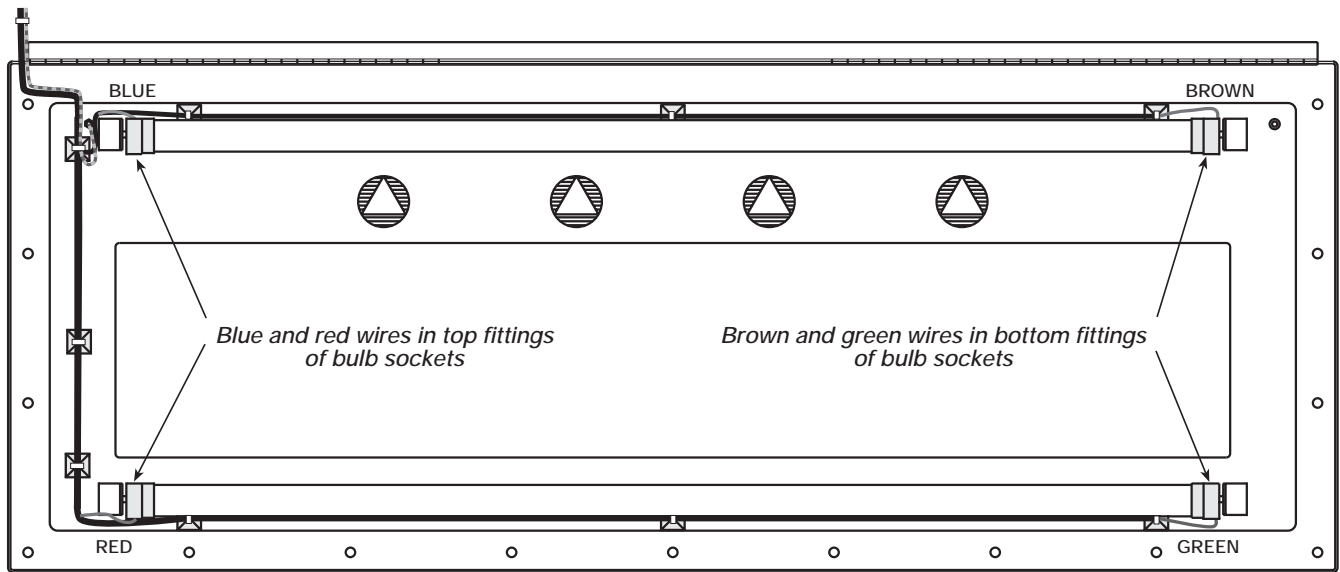

Figure 3. Bulb Wiring for F60 Backlighting Option
7. Install bulb sockets on the display cover as shown in Figure 3 on back of this sheet.